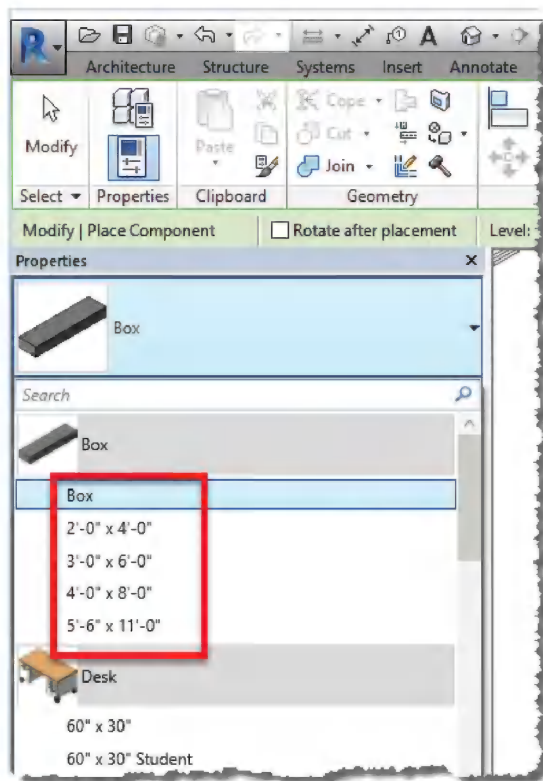

FIGURE 15-5.6 *Type Selector* in the project environment
15. Select the **Type Selector** (Figure 15-5.6).
Looking at Figure 15-5.6, notice all the *Types* created in the *Family Editor* are now available under the *Family* name **Box**. A *Type* named **Box** is also listed because the *Family* was previously loaded without any specific *Types* created, and as mentioned previously, when no *Types* exist Revit will create one with the same name as the *Family*. This can be deleted or renamed in the *Project Browser* within the *Families* section.